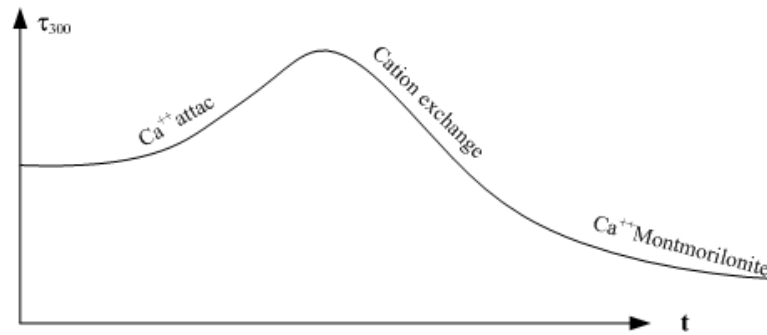

Figure 1-3: Shear stress vs. time after encountering high concentration of contaminants.
- The cement is by far not hardened and contains a high concentration of lime (CaOH). Lime dissociates and one Ca^{++} ion attack 2 charged clay plates. This binding cannot be broken by mechanical means (shear stress), and the stiff mud has to be dumped when circulated to surface. See Figure 1-3.